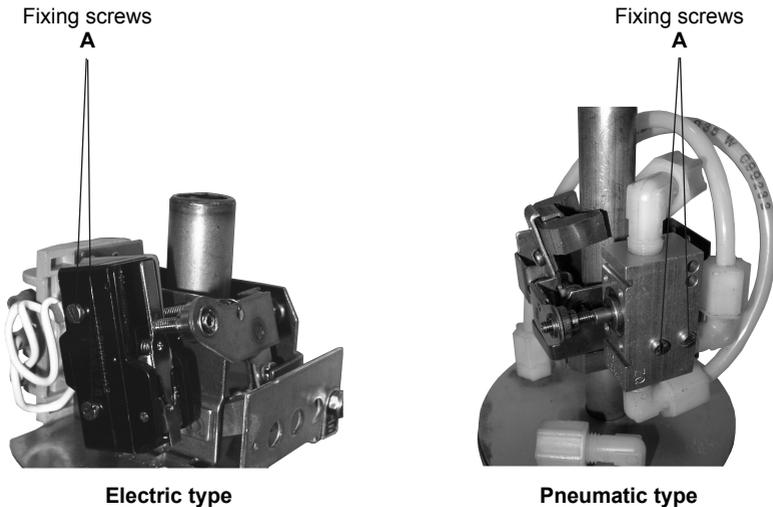

Fig. 6 - Switch mechanism
To reposition the mechanism loosen the fixing screws (fig.6) permitting the switch to move along the non-magnetic pocket; fix then the mechanism in the new position. For the lower position mechanism it is also necessary to remove the locking screw from the plate.
- 2 - Loosen the 2 fixing screws "A" of the plate (see Fig. 6 - Electrical type); take out then the switch mechanism from the non-magnetic pocket.
- 2 - Loosen the 2 fixing screws "A" of the mechanism (Fig. 6 - Pneumatic type) and take it out from the enclosing tube.